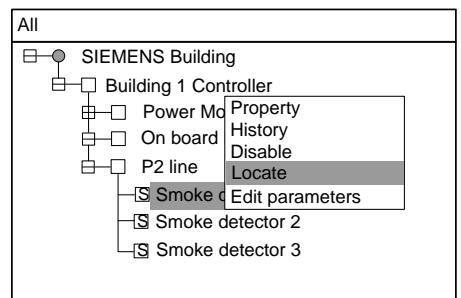

Fig.15-4
3. Press “→” to pop out the shortcut menu (Fig.15-4). Use “↓” to select “Locate” and press “OK” to locate the selected equipment. Now the test indicator is flashing.